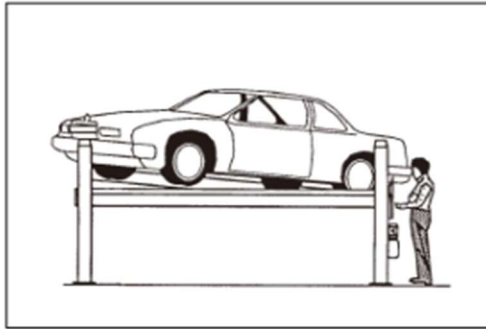

Figure 35 – Improper docking of vehicle
- An improper docking of the vehicle on the lifting platform, improperly parking the vehicle, or an oversized vehicle that does not match the lift specifications can cause the vehicle to fall at risk. (Figure 35)